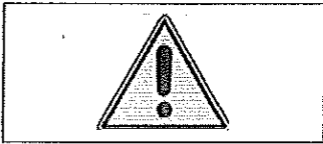

**FIG. 5-1**
- Install provided fittings on new pump. Take note of fitting orientations off old pump. Refer to FIG. 5-1.